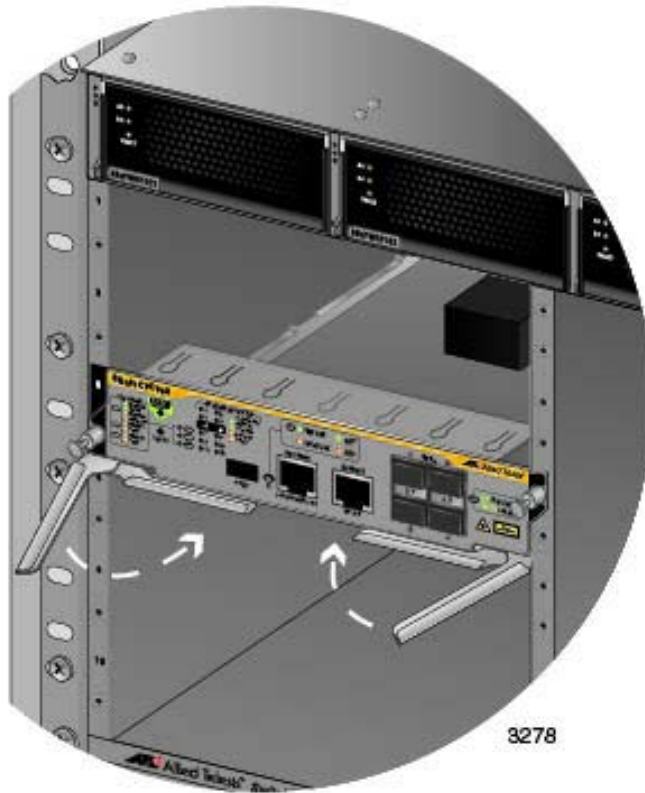

Figure 72. Closing the Locking Levers on the AT-SBx81CFC960 Controller Fabric Card
8. When you feel the card make contact with the connector on the backplane of the chassis, carefully close the two locking levers on the front panel of the controller card to secure it in the chassis, as shown in Figure 72 on page 144.